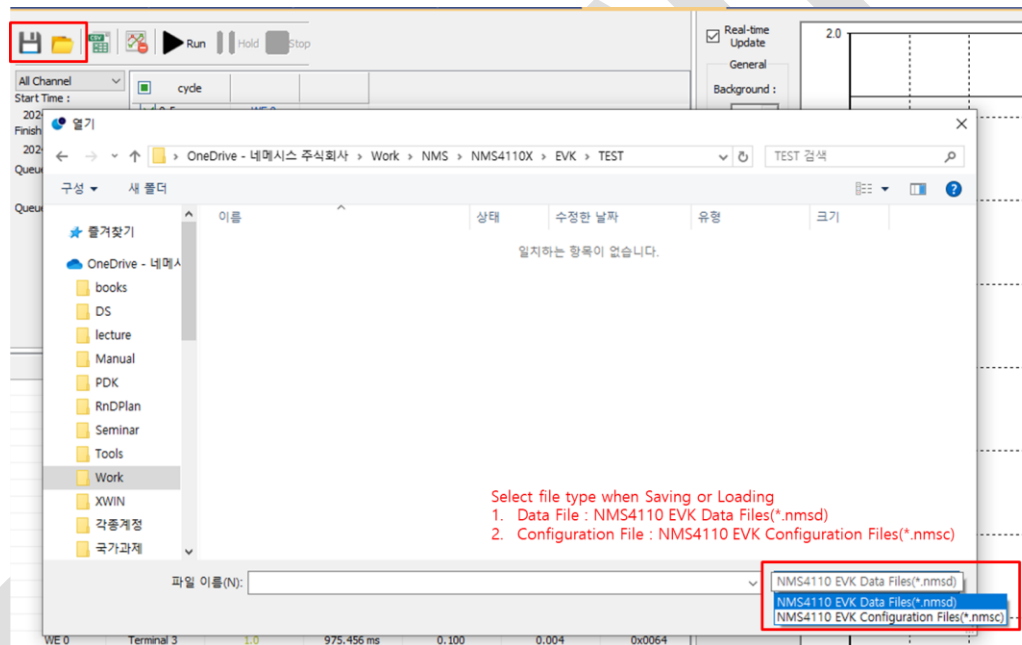

Figure 12 Save/Load Function
- **Save/Load function :** There are data file extensions and configuration file extensions(Figure 12)